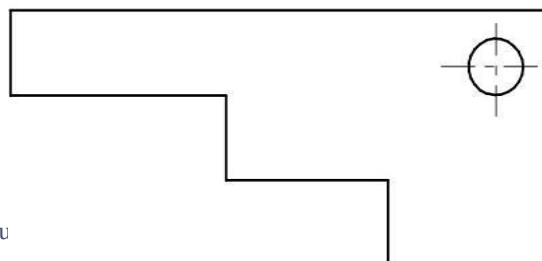

Fig.4
- Copy Fig.4 to 2:1 scale and dimension it using Aligned system with Chain dimensioning.